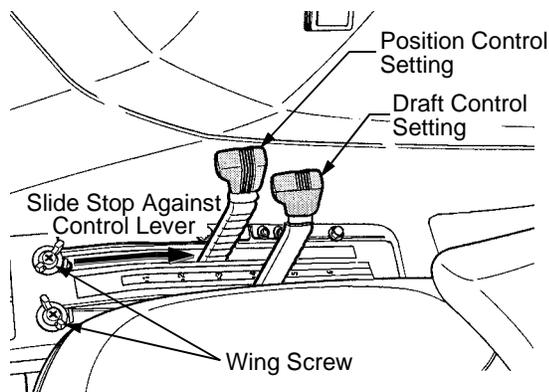

Figure 33
- After determining a desired working position using one, or both, controls, the stop bolts can be used to ensure the levers are returned to their selected positions. Loosen the wing screws and slide the stop(s) against one (or both levers) and re-tighten the wing screws. Once the stop bolt is set, simply move the relevant hydraulic lever forward until it contacts the stop. See Figure 33.